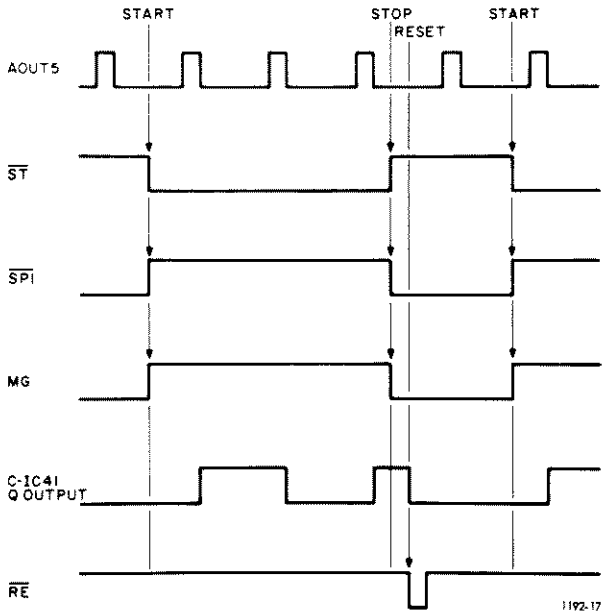

Figure 4-7. Count mode timing diagram.
Start. When the count button is depressed (START, Figure 4-7), \overline{ST} goes to 0 and the main-gate output signal (MG) goes to 1 (gate open). At this point, the counting decades start counting the INPUT A signal AOUT5. The